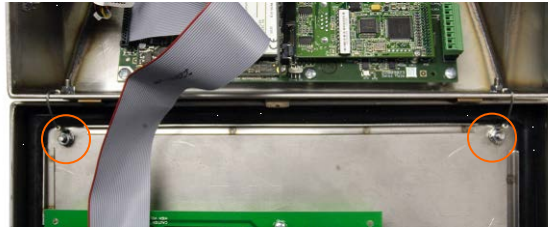

Figure A-7: Ground Strap Attachment Locations
2. Loosen and remove the two nuts securing the two metal cables (Figure A-7) that hinge the front cover to the rear housing.